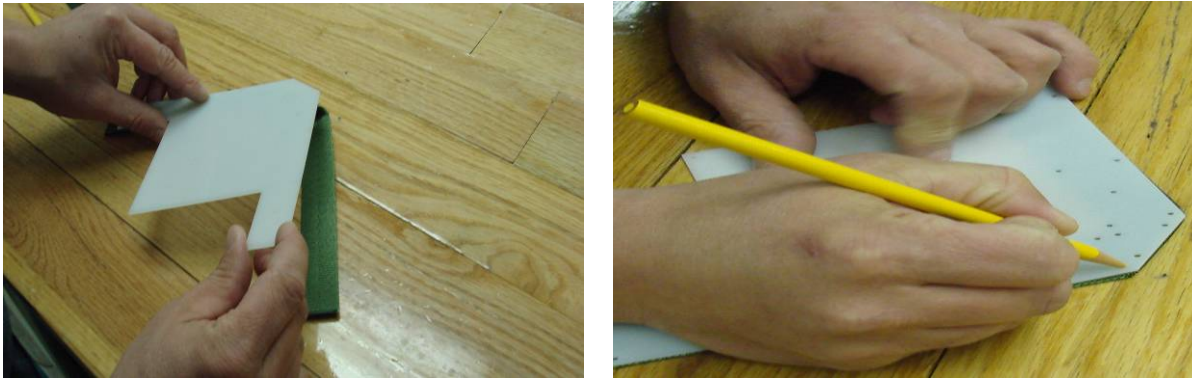

Figure 38. Marking the Diagonal Back Strap Keeper.
11. Using the template, mark the diagonal back strap keepers by placing the template on top of the diagonal back strap keepers and mark the alignment holes with a contrasting color (Figure 38).